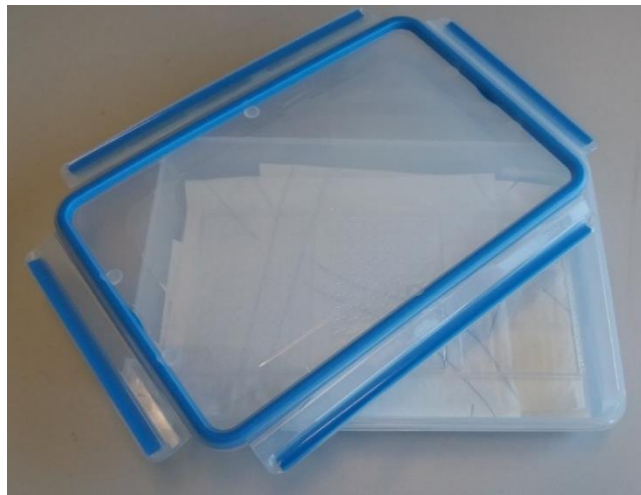

Fig. 2: Exemplary storage box with paper towel that can hold 3 Multiwell-MEA plates.
- 1) Place a paper towel on the bottom of a storage box (Fig. 2) and add 10 - 15 ml of distilled water to moisten the paper towel.